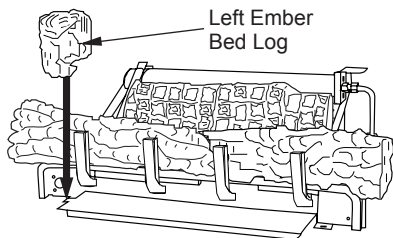

Figure 28 - Installing Left Ember Bed Log
4. Place left ember bed log (18" D-073, 24" & 30" D-048) as shown in **Figure 28**. The log has groove on one side that sets on the ember bed pan. The back side of this log needs to rest against the front of the base assembly. Make sure the flame from the ember pan does not touch the ember bed log.